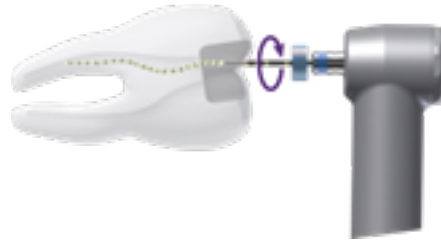

Figure 2
8. Use very long gentle strokes to progress down to working length (WL) (Fig. 2). Apply very light apical pressure and allow the file to progress passively along the canal. Repeat until the working length is reached. Usually, it should be reached in one or two attempts. Clean the flutes from any debris prior to re-insertion. Never force the file and always keep it spinning and moving while in the canal. Always keep the canal filled with irrigant while using the files to avoid debris accumulation in the canal space.
2. Place one drop of solvent in the coronal space created and wait for at least 1 minute (Fig. 2).